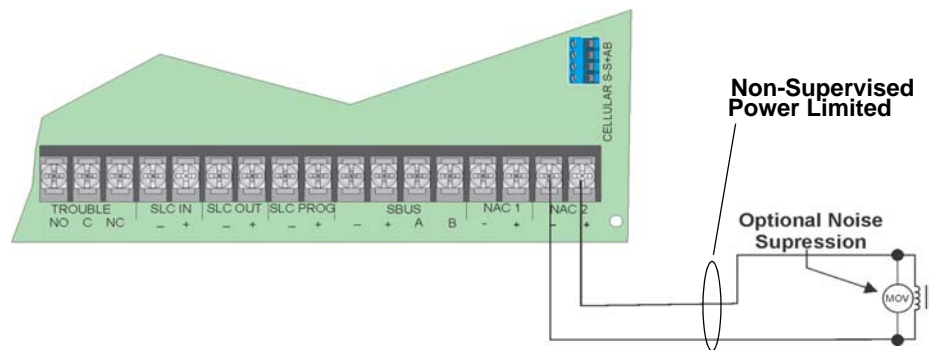

Figure 4.47 Example of an Auxiliary Power For Door Holder
**NOTE:** Figure 4.47 uses UL listed door holder Model 1400 from Door Control International as an example